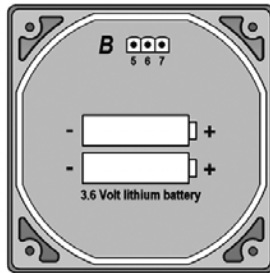

Figure 20
2. Insert new batteries by changing one after the other and reassemble the totalizer (Figure 20).